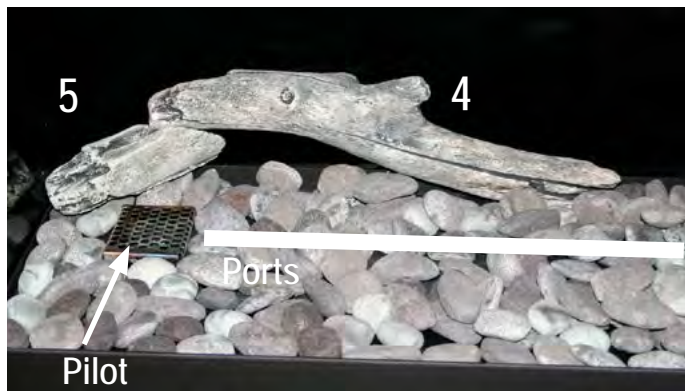

Figure 26f.
Step 7. Place log 5 from LGS59 in the back left corner of the burner, behind the pilot. Place Log 4 from LGS58 on top of log 5. Use stones to help stabilize log 4. See **Figure 26f**.